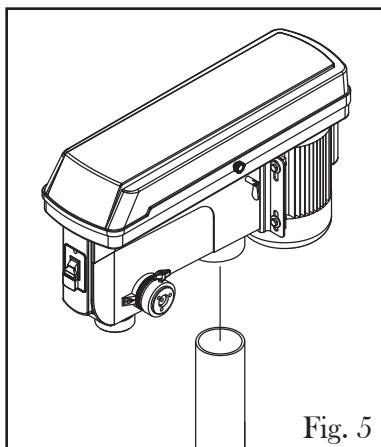

Fig. 5
5. Install the head assembly with the help of a friend by carefully lifting the head above the column. Slide it onto the column, making sure the neck goes down as far as possible (Fig. 5).